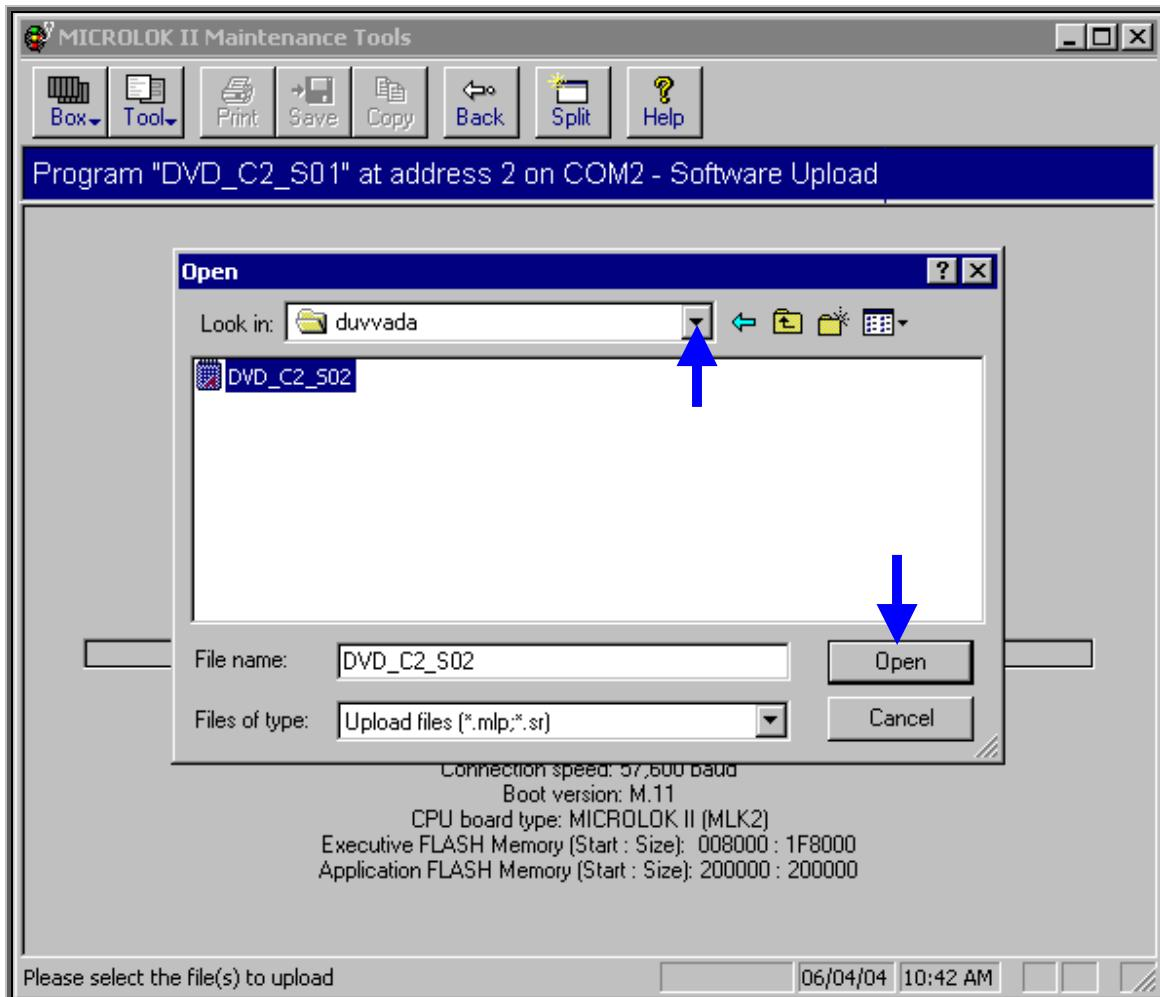

Figure-5.9.6
- ❖ When System completes the Reset process, mini active window “**Open**” appears (Figure-5.9.6).